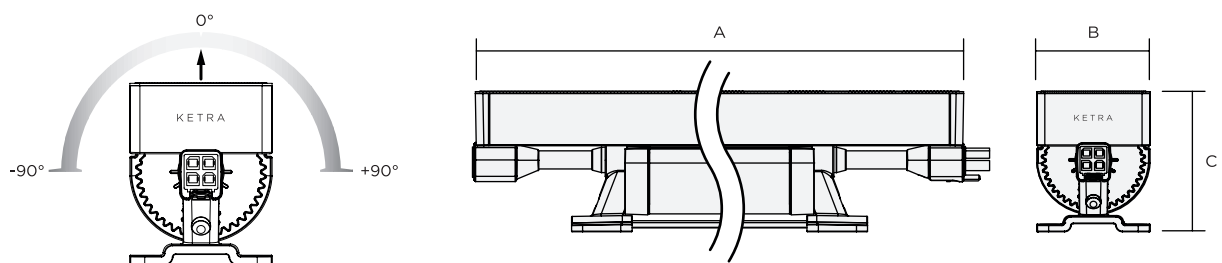

fig. 6
- The product can be rotated 180 degrees to enable aiming the beam. Note that when rotated, the overall height and width of the space required for installation may change (see fig. 6).